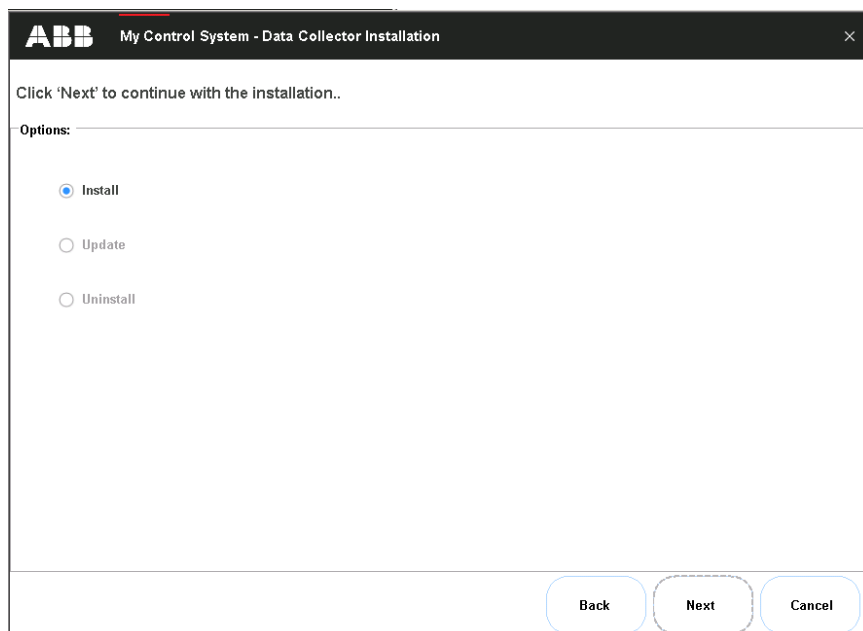

Figure 3.3: MCS-DC Installation
4. Select **Install** option and click **Next**, as shown in **Figure 3.3**.